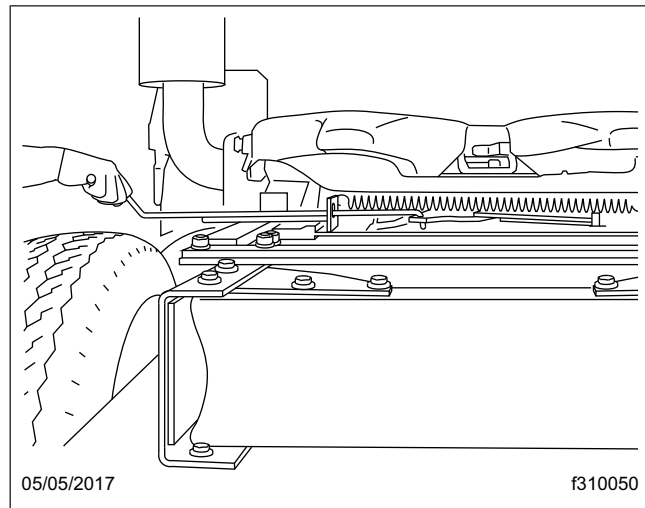

Fig. 10.12, Releasing the Sliding Fifth Wheel, (Fontaine)
- 2.1 **Fontaine:** Lift the slide release pull handle to disengage it from the guide plate. Then, pull out the handle until it is in the unlocked position and can be positioned against the guide plate to hold it out. The handle will stay in the unlocked position until it is manually disengaged from the guide plate. See Fig. 10.12.